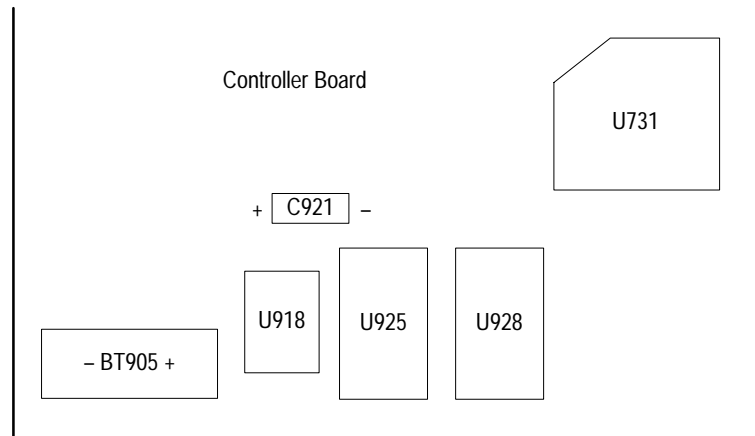

Figure 2–8: Location of C921 on Mainframe Controller Board
3. Remove the battery (BT905 in Figure 2–8) by cutting the elastic band and pulling the battery out of the holder.